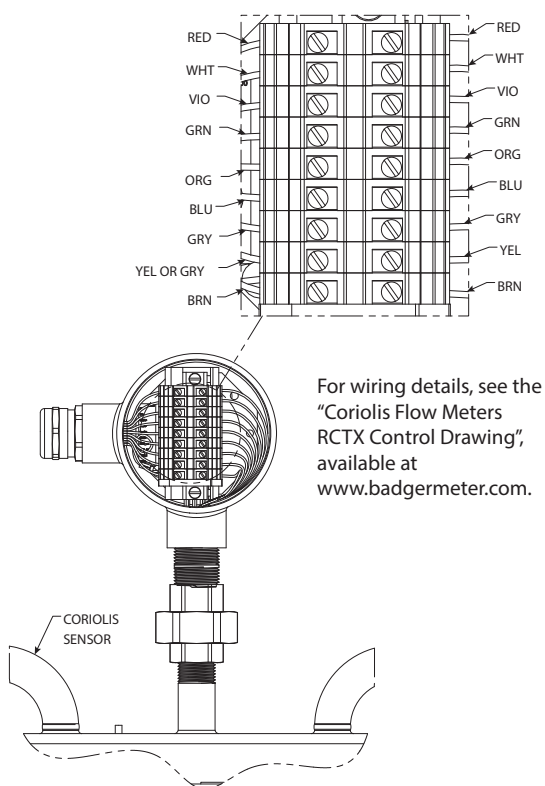

Figure 52: Remote mounted hazardous location sensor
2. Slide the protective cable cover over the sensor connections and thread the cover hand tight. See *Figure 52*.